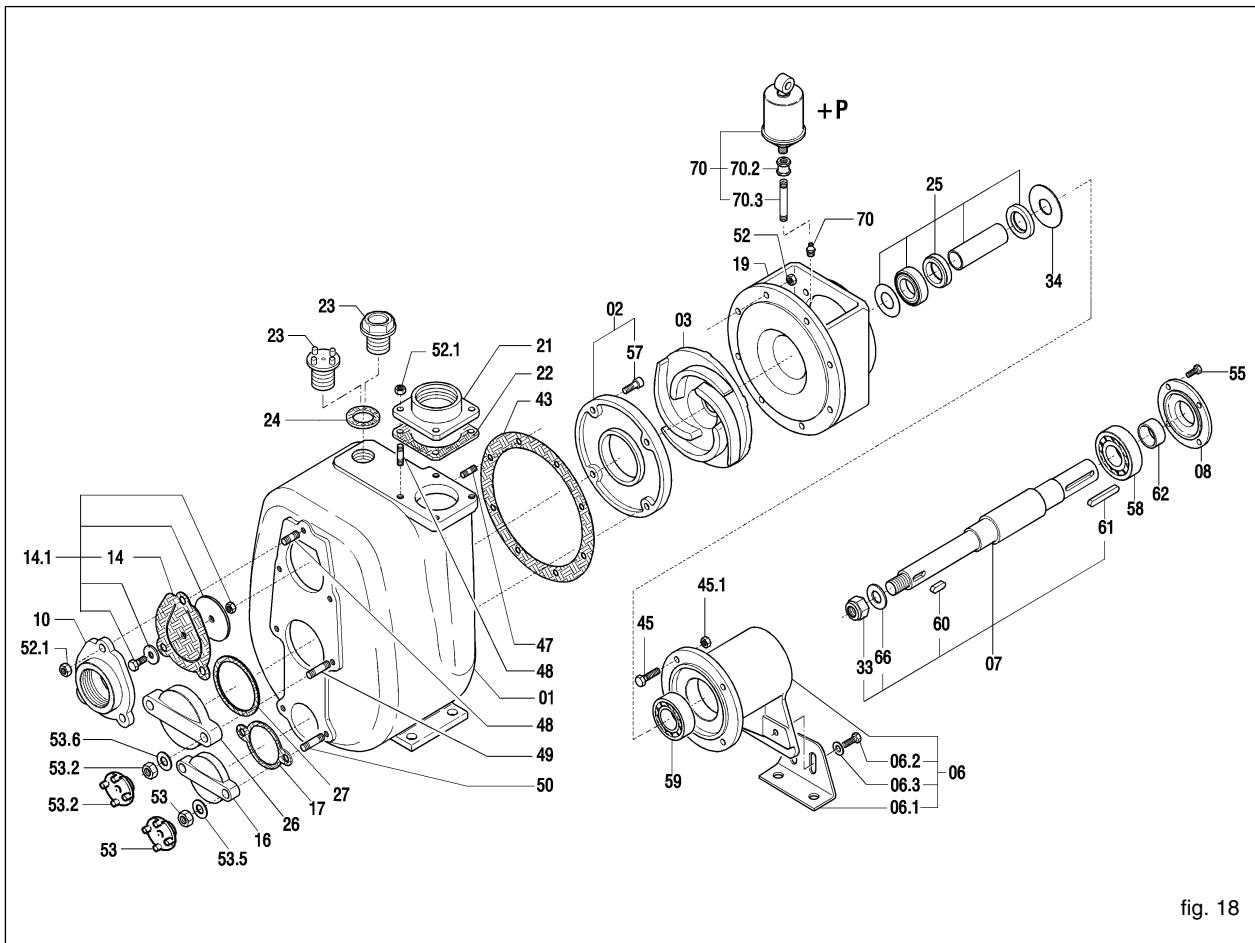

fig. 18
12.2 Replacing the impeller (fig. 18)
- Unscrew the nuts (52) and remove the pump casing taking care not to damage the casing gasket (43).
- Block the impeller (03) and unscrew the self-locking impeller nut (33).
- If necessary, replace the casing gasket (43).
12.3 Replacing the wear plate (fig. 18)
- Unscrew the nuts (52) and remove the pump casing, taking care not to damage the casing gasket (43).
- Unscrew the wear plate screws (57).
- Remove and replace the wear plate (02).
12.4 Replacing the check valve (fig. 18)
- Slip off the suction flange (10).
- Slip off the check valve (14).
- Clean the valve seat of the suction flange (10) and reassemble it.
12.5 Replacing the mechanical seal, type 1 or 2 (figs. 18, 19, 20)
- Unscrew the nuts (52) and remove the pump casing, taking care not to damage the casing gasket (43)
- Block the impeller (03) and remove the self-locking impeller nut (33)
- Remove the impeller (03)
- Remove the head (19). The rotating part of the seal (40) mounted on the shaft sleeve (31) will slide off the shaft together with the head
- Remove the stationary seat (39) and its gasket (38) from the head
- Remove the lip seal (41)
12.7 Maintenance of the bearings (fig. 18)